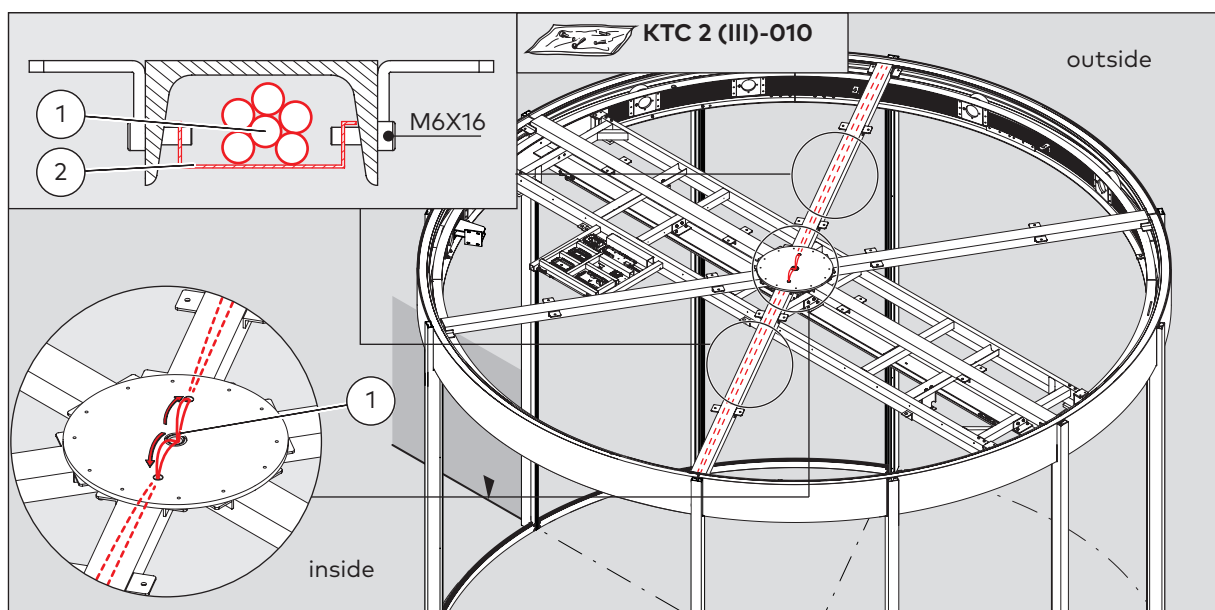

Fig. 46 Mounting the reinforcement of the track rail
2. Guide the cables (Fig. 46/1) through the cable duct (Fig. 46/2).